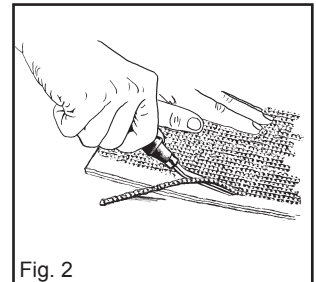

Fig. 2
2. Removed after installation (see Fig. 2). Hook sizes 30, 4-1/2 round, 5, 6 and 7.
- If the belt has an impression cover, skive the impression off prior to measuring the thickness (Fig. 2).